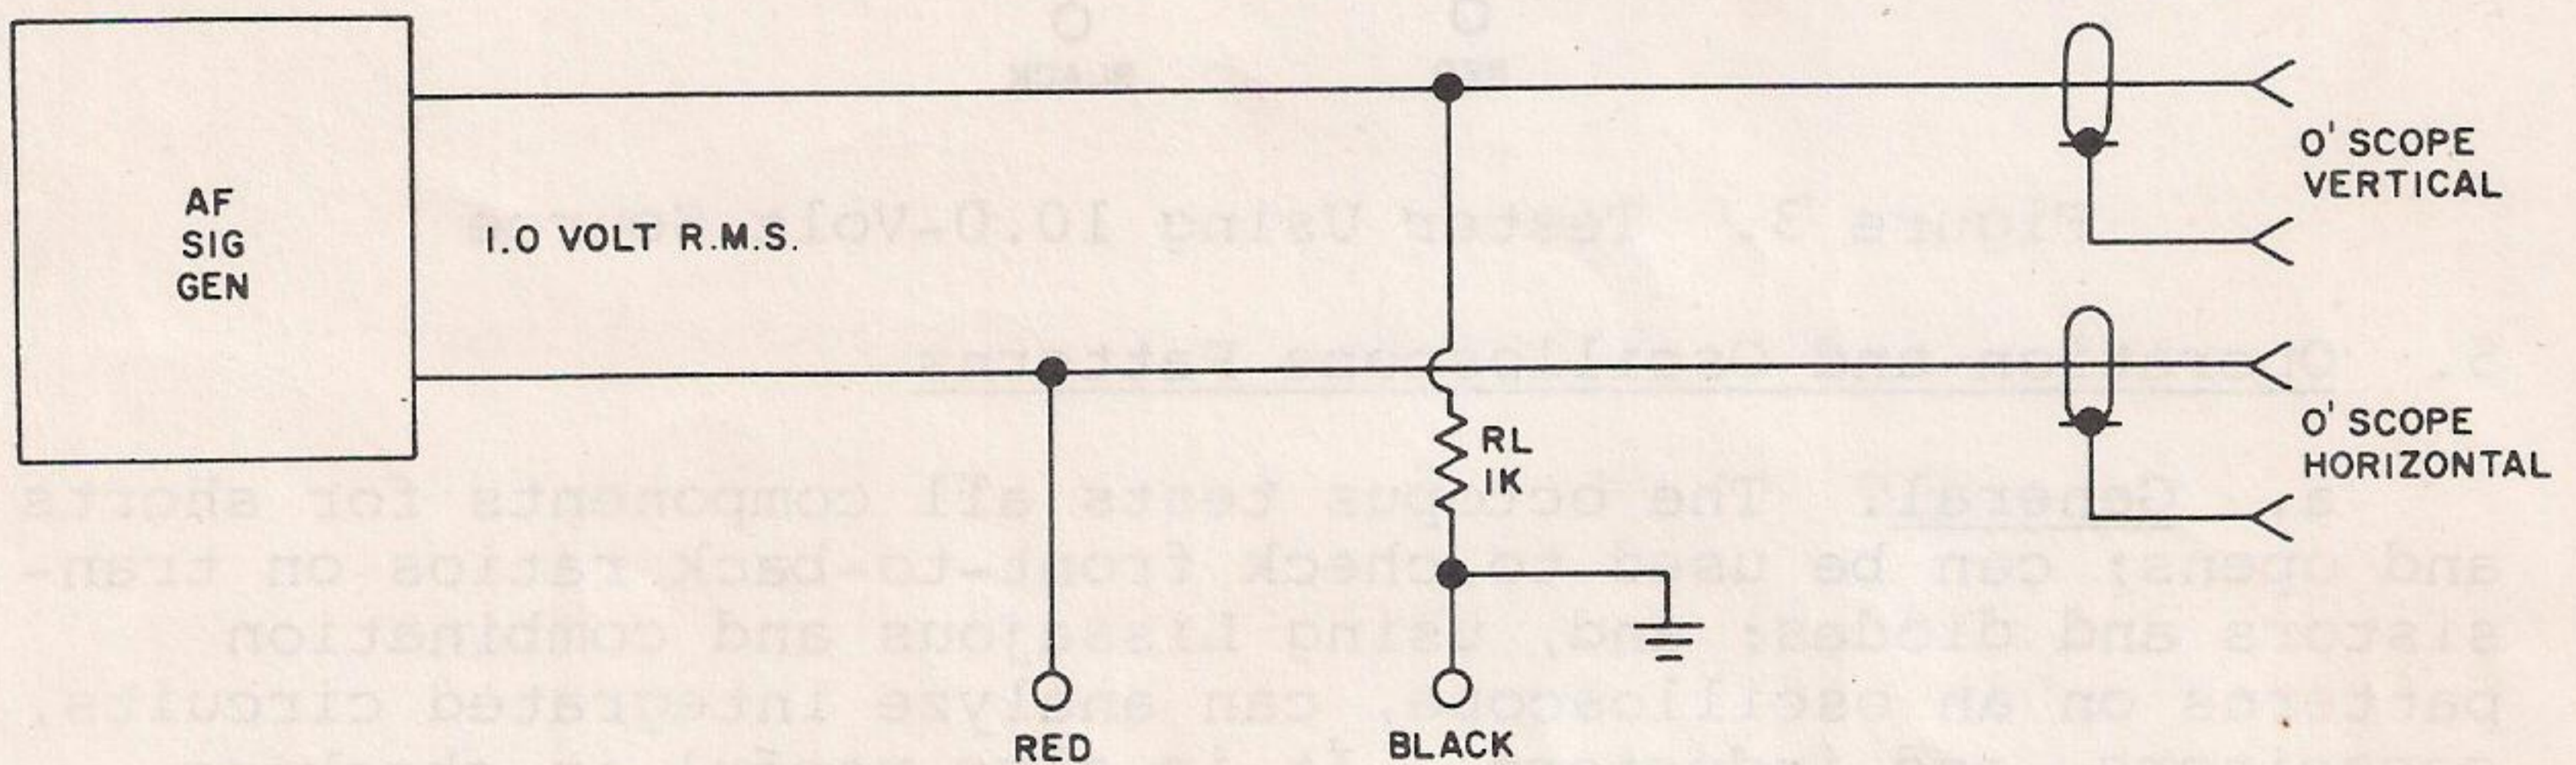

Figure 2. Tester Using 1.0-Volt Source
b. Tester Using 1.0-Volt Source. Assemble the tester as shown in figure 2, substituting a variable frequency audio oscillator as the test voltage source.